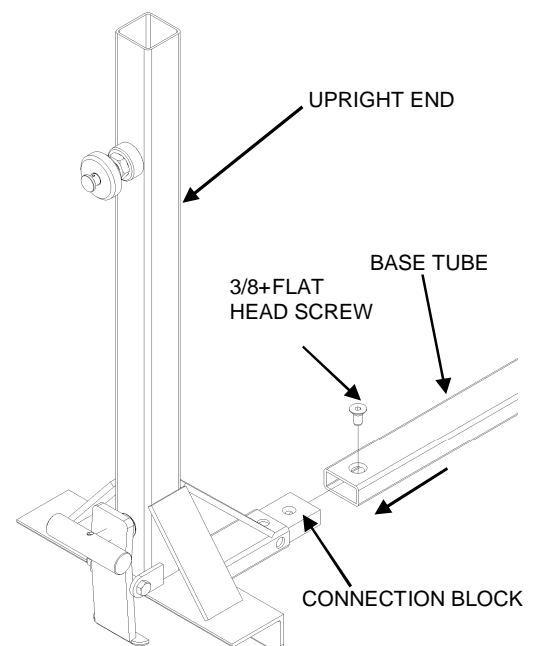

Fig. 11
2. Install the Just for Kids Upright between the Bases (refer to section on Bases Tie-Down if required) and tighten the clamp (**Fig. 11**) on the lower section of each side of the Upright Assembly by turning Clockwise.
2. Install the Just for Kids Upright Assembly between the Just for Kids Bases Assemblies (refer to section on Bases Tie-Down if required) and tighten the clamp (see **Fig. 11 on page 19**) on the lower section of each side of the Upright Assembly by turning Clockwise.